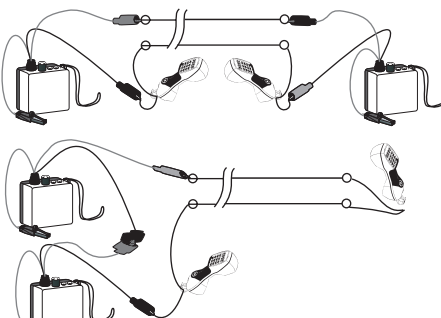

Figure 2. Supplying Talk Power
Connect the test leads in series with a telephone test set (bustest) and the inactive wire pair (Figure 2). Move the toggle switch to the SHORT position to supply the “dead” line with talk power.
*Additional test sets may be added, in series (red clip to black clip), to increase talk power supply when needed (Figure 2).*